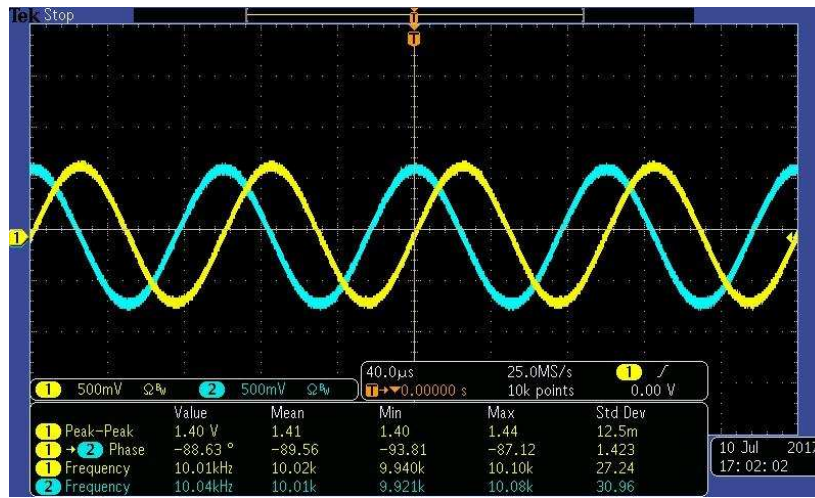

Figure 21. CW Output
9. The oscilloscope displays the frequency I and Q signals at 10 kHz as shown in Figure 21. The amplitude should be around $1.5\text{ Vpp} \pm 300\text{ mVpp}$, though this amplitude may change. The frequency should be 10 kHz and the I and Q signals should be 90 degrees out of phase.